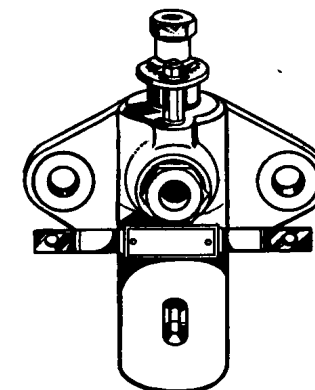

Fig. 7A. Type BPF1B../04
3. BPF1B../04. Provided with a vertical flange parallel to control rod—fig. 7A.